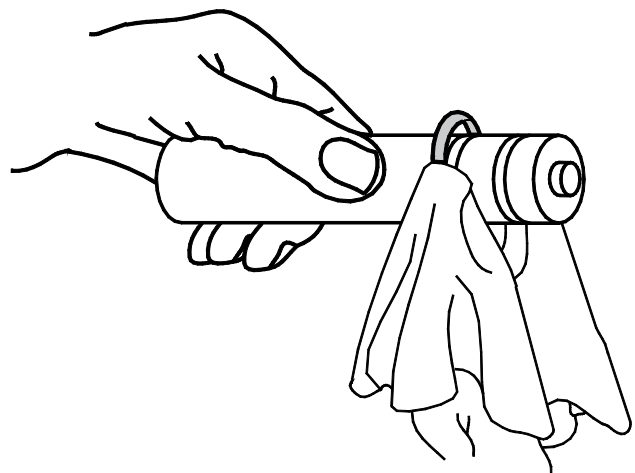

Fig. 9
- d. Remove the o-rings from the spigot plungers by grasping the part with one hand and with a dry cloth in the other hand, squeeze each o-ring upward. When a loop is formed, grasp the o-ring with the other hand and roll it out of its groove and off of the part (Fig. 9).
- a. Remove the o-rings from the bottom of the carb tube in the same manner as the spigot plunger o-ring removal (Fig. 9).